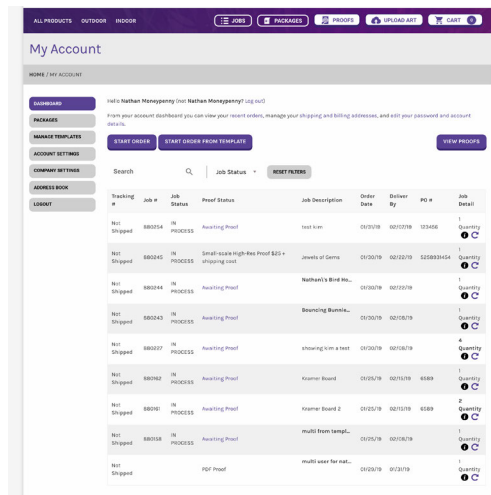

Fig. 3
2. Once logged in, the **Dashboard** page will be shown. This page shows the status of your orders, and has buttons to let you view your proofs or place a new order. (**Dashboard** is the default view, if you would like to change what page loads when logged in, it can be changed on the **Account Settings** page.) (see Fig. 3)